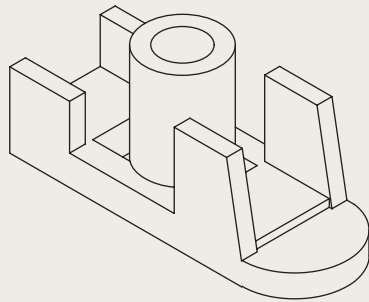
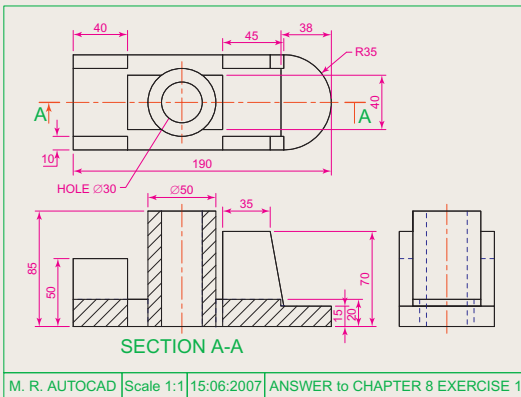

Fig. 8.19 Exercise 1 – a pictorial view
Fig. 8.20 Exercise 1
1. Figure 8.19 is a pictorial drawing of the component shown in the three-view orthographic projection Fig. 8.20. Construct the three views but with the front view as a sectional view based on the section plane A-A.